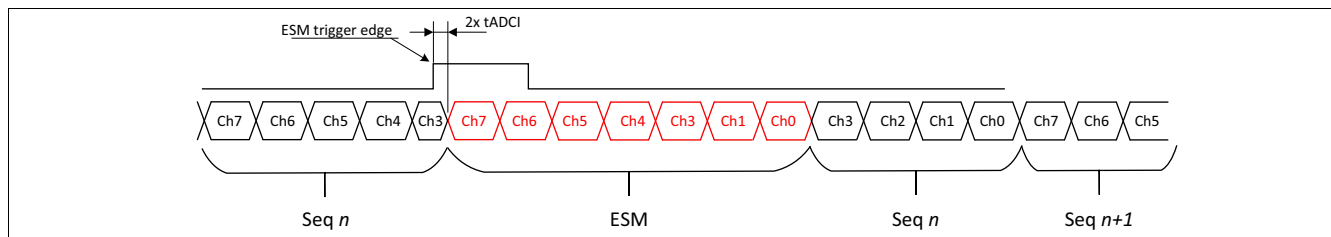

Figure 208 ADC1 ESM measurement within sequence example
- “Exceptional Sequence Measurement” (ESM), upon hardware event, the sequence programmed in CHx_ESM is inserted in the currently running sequence. The current measurement is aborted, then the ESM sequence will be executed, two tADC1 cycles after the trigger. After the ESM is finished the aborted measurement will be repeated and the sequence continues, see Figure 208. After the Exceptional Sequence Measurement is finished an interrupt can be requested. See SQ1_4 and following sequence registers.